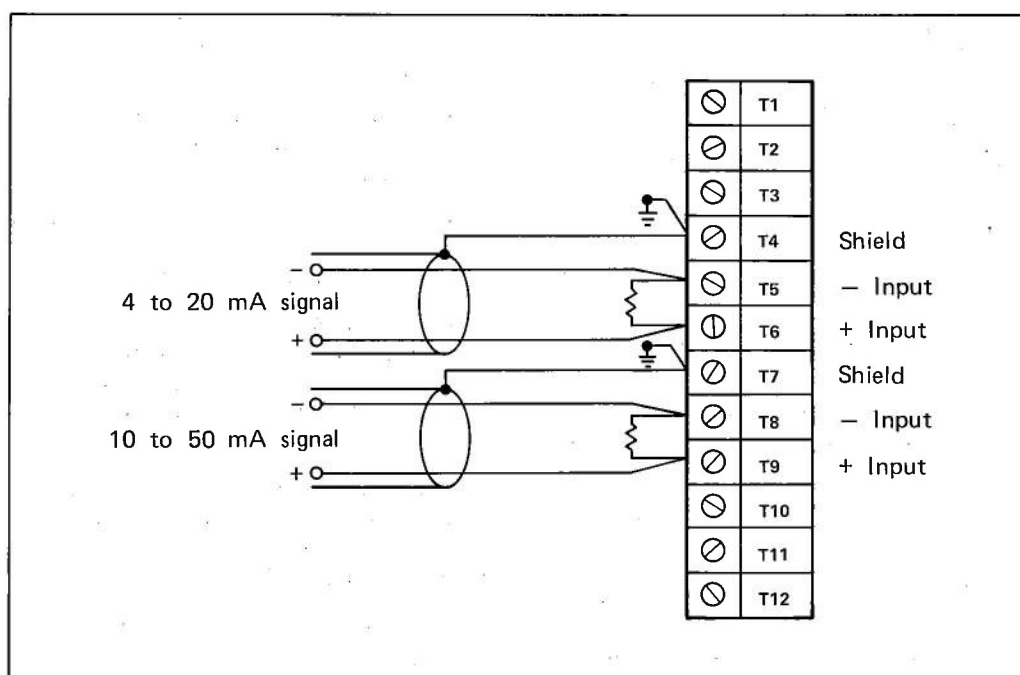

Figure 8 — Current Input Connections
4. It is possible to use an A/D channel as an analog current, but an external resistor must be added. Select the correct resistance value from Table C. Install it across T5 and T6 or T8 and T9 as shown in Figure 8. All resistors should be 0.1%, 1/2 watt precision types with a low-temperature coefficient (less than ± 20 ppm).